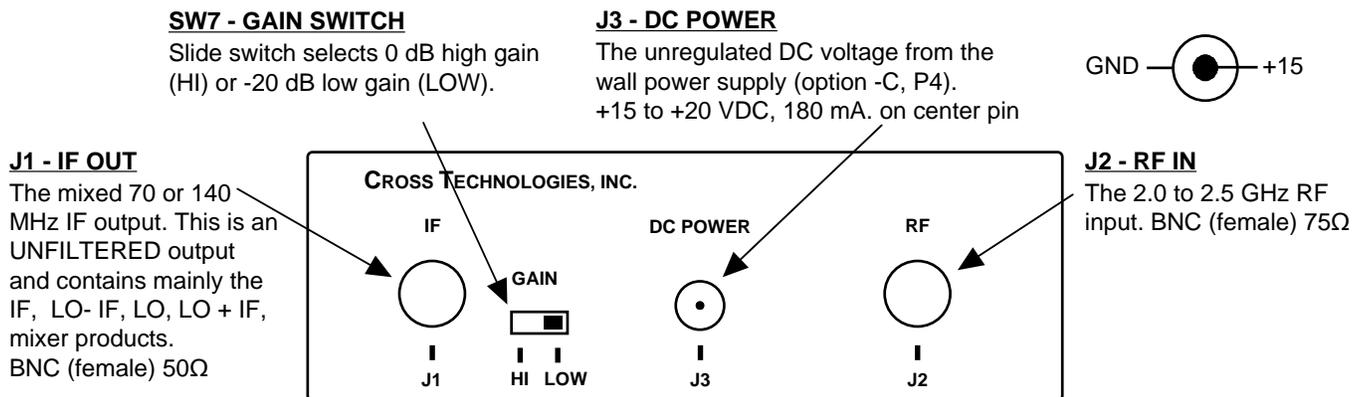

FIGURE 2.2 2005-22P Rear Panel Inputs and Outputs
2.3 Rear Panel Input/Output Signals - Figure 2.2 shows the input and output signals to the 2005-22.
1. If using the receiver LNB voltage to power the 2005-22P, be sure +15 to +20 VDC is on the RF center conductor. If using the wall power supply (**options -C or -P4**), connect the power supply to the DC POWER connector and either 120 VAC (-C) or 100-240 $\pm 10\%$ VAC (-P4) (Figure 2.2).
3. Select either HI or LOW GAIN using the switch (SW7) on the rear panel (Figure 2.2).
4. Connect a -10 dBm max RF signal to RF In, J2 (Figure 2.2).
5. Connect the IF Out, J1, to the modulator under test (Figure 2.2).
2.5.4 Selecting the Gain - The gain of the 2005 can be selected for +0 dBm (HI gain) or -20 dBm (LOW gain) with SW7 on the rear panel (see Figure 2.2).